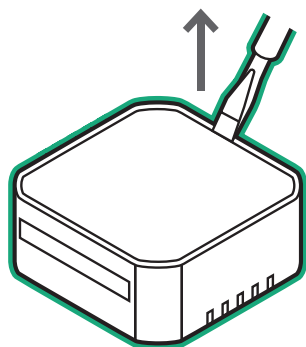

Fig.3
2. Using the tip of a small flat bladed screwdriver, gently lever the Switch Input Unit backplate up and off from the main housing as shown in Fig. 3.